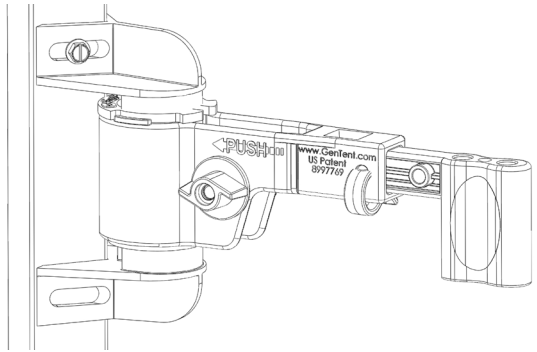

Fig. 1.4
- g. Figure 1.4 shows the GenTent Clamp installed onto the GTU.
- 1. When installing onto a GTU adapter you will need to loosen the GenTent clamp hardware and push the clamp directly onto the rubber sleeve. (Fig 1.4)